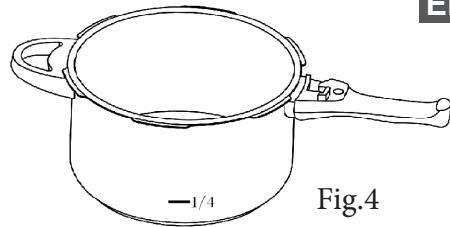

Fig.4
- Less than 1/4 of the cooker height for expansive food such as rice, bean, etc. (Fig. 4)